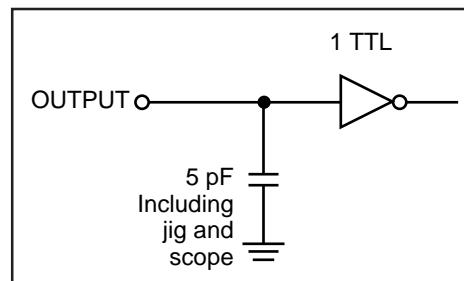

Figure 2
- Tested with the load in Figure 2. Transition is measured  $\pm 500 \text{ mV}$  from steady-state voltage. Not 100% tested.
- Tested with the load in Figure 2. Transition is measured  $\pm 500$  mV from steady-state voltage. Not 100% tested.